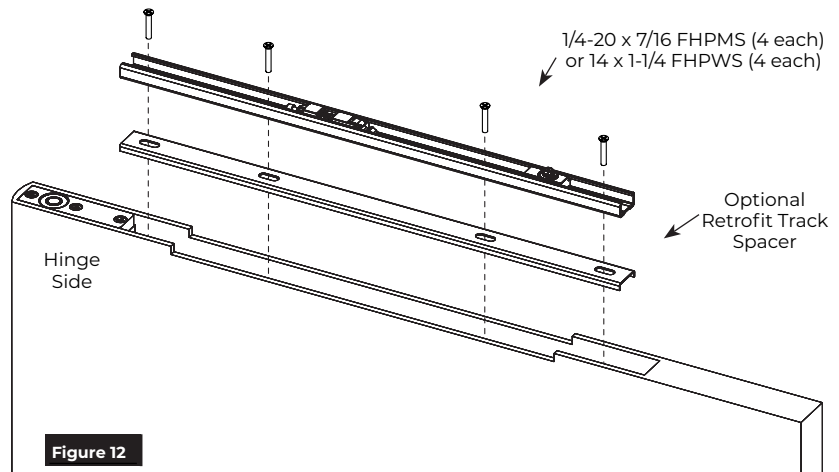

Figure 12
2. Install track into top of door using either four (4) 1/4-20 x 7/16" machine screws for metal doors or four (4) #14 x 1-1/4" wood screws for wood doors. (Figure 12).